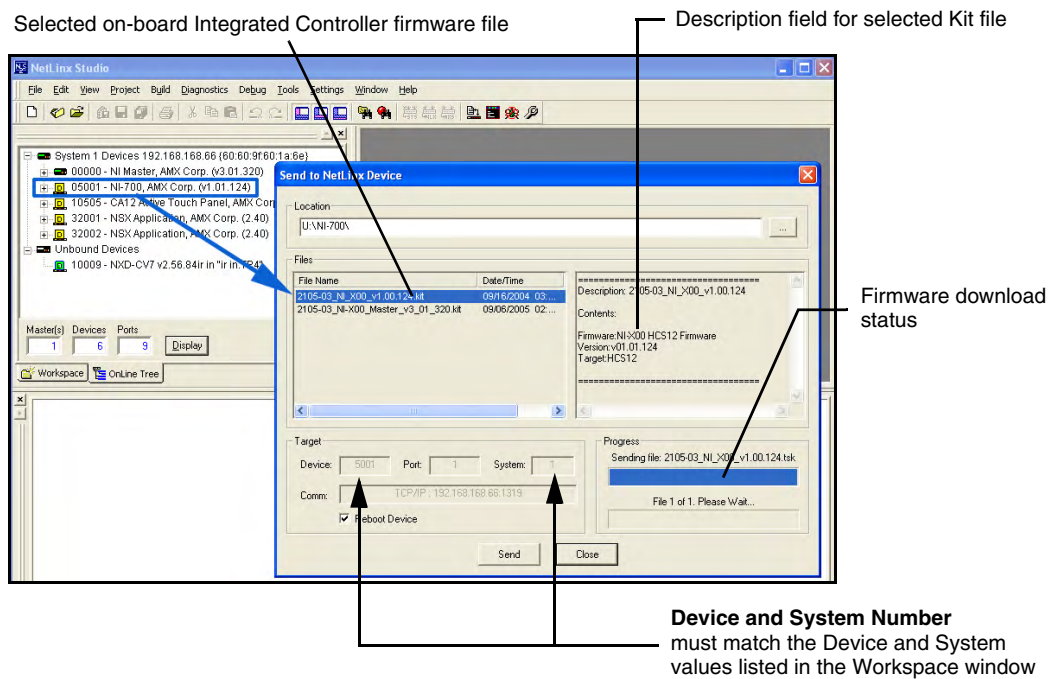

FIG. 42 Send to NetLinx Device dialog (showing on-board Integrated Controller firmware update via IP)
7. From within Studio, select **Tools > Firmware Transfers > Send to NetLinx Device** from the Main menu to open the Send to NetLinx Device dialog (FIG. 42). Verify the target's System number matches the value listed within the active System folder in the **OnLine Tree** tab of the Workspace. **The Device must match the entry for the on-board Integrated Controller (NI-X000/NI-X000) device.**
8. Select the Integrated Controller's (**_X00**) from the **Files** section (FIG. 42).
11. Click **Send** to begin the transfer. The file transfer progress is indicated on the bottom-right of the dialog (FIG. 42).